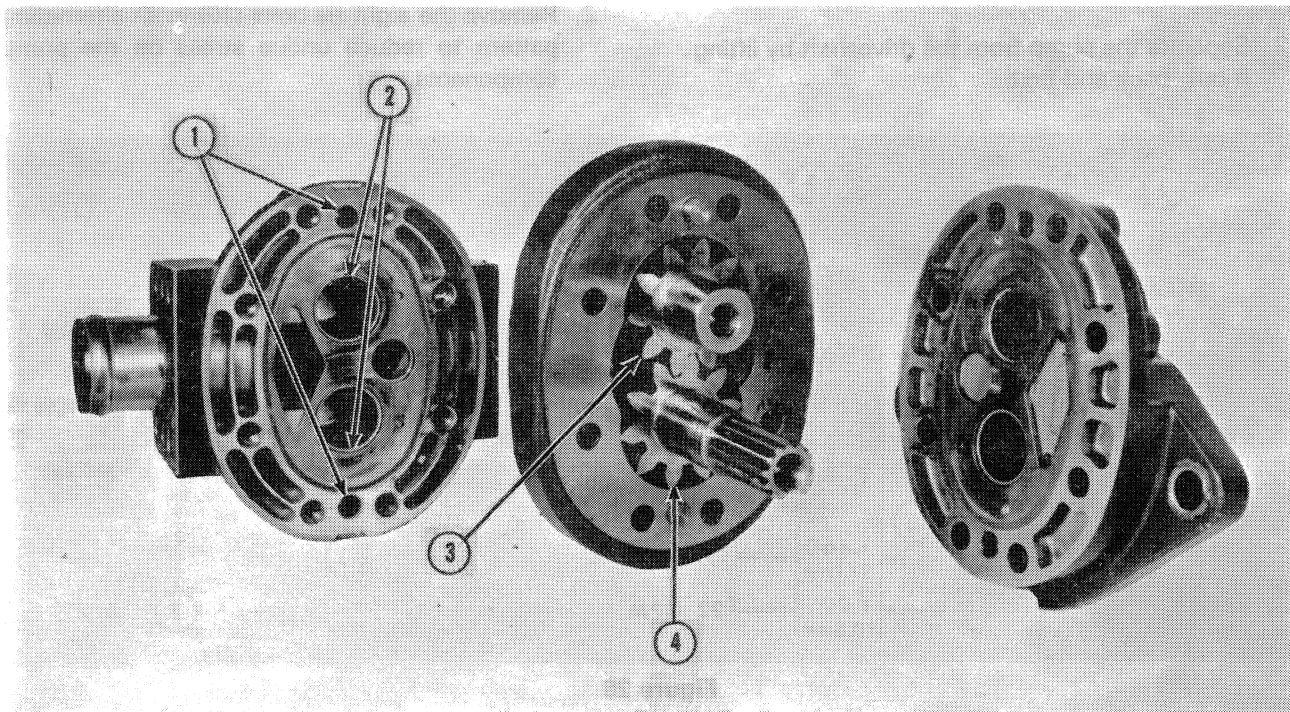

Figure 27
- b. The oil grooves in the bearings (2), Figure 27, should be in line with the dowel pin holes (1) and pointed toward the outside surface of the plate.
4. Inspect the gear pockets of the body for scoring or wear. If the gear pocket (3) shows signs of any wear past the point (4) shown in Figure 27, replace the pump. Wear beyond this point will severely limit the efficiency of the pump.